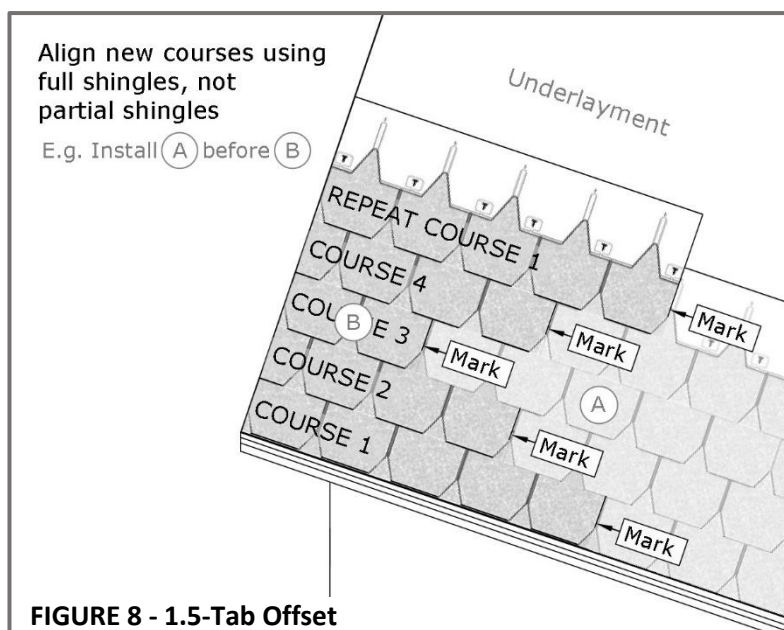

FIGURE 8 - 1.5-Tab Offset
- Establish the overall diagonal method or stair-step effect always having a 1.5-tab offset. See **Figure 8**.